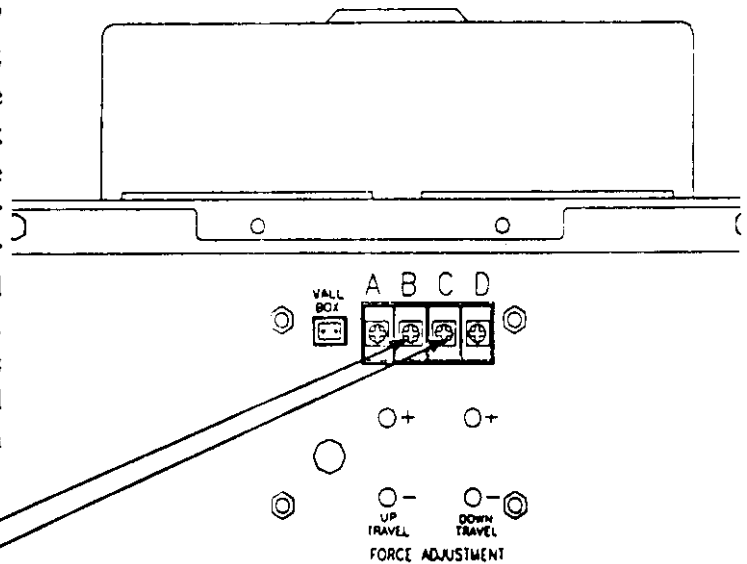

Figure 13B.
Step 8: Installing the Standard Wall Push Button. Remove about 1/4" of insulation from both ends of the 2 strand low voltage bell wire. Connect one end to both screw terminals on the back of push button . Select a convenient place near an access door, 5 ft from the floor and out of reach of children, for mounting. (2) 1-1/2" Screws and dry wall anchors supplied.) Install the Caution Label fig.12B page 12, near this installation. Run bell wire up the wall and across to the opener. Secure with insulated staples. Attach to Terminals B & C fig. 13B.